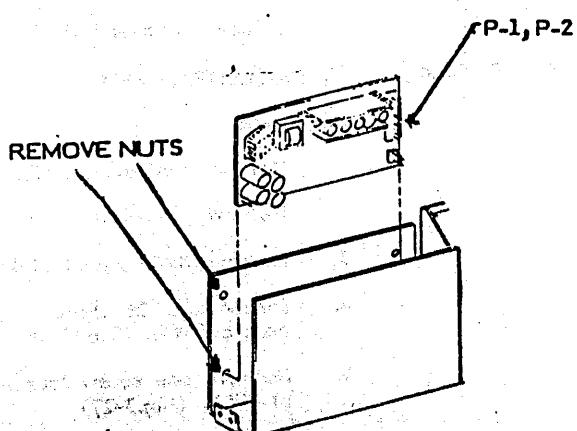

FIG. 3-23 POWER SUPPLY REPLACEMENT
3. Remove (4) nuts securing power supply to bracket. (Fig. 3-23)